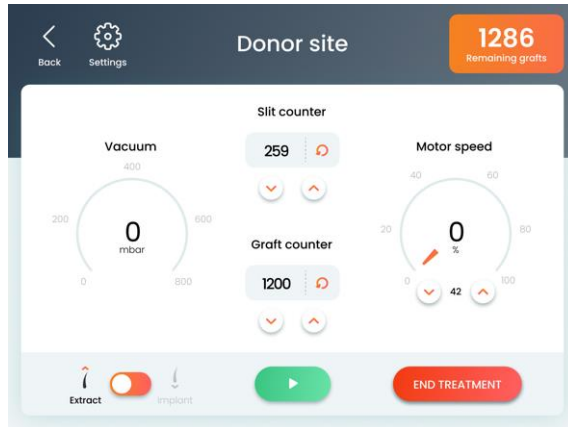

Figure 5-6. Donor Site Treatment Screen
3. Press the **Confirm** button; the Donor Site Treatment screen appears, as shown in Figure 5-6.